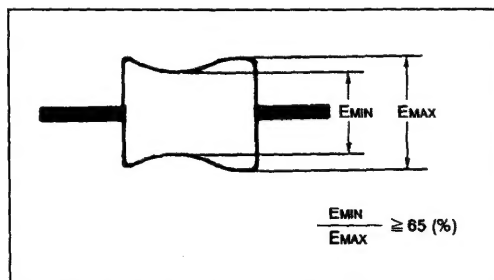

Fig. 4-13.
- 2) Then, confirm that the minimum amplitude value (E_{MIN}) is 65% of the maximum value (E_{MAX}) or larger (See Fig. 4-13).